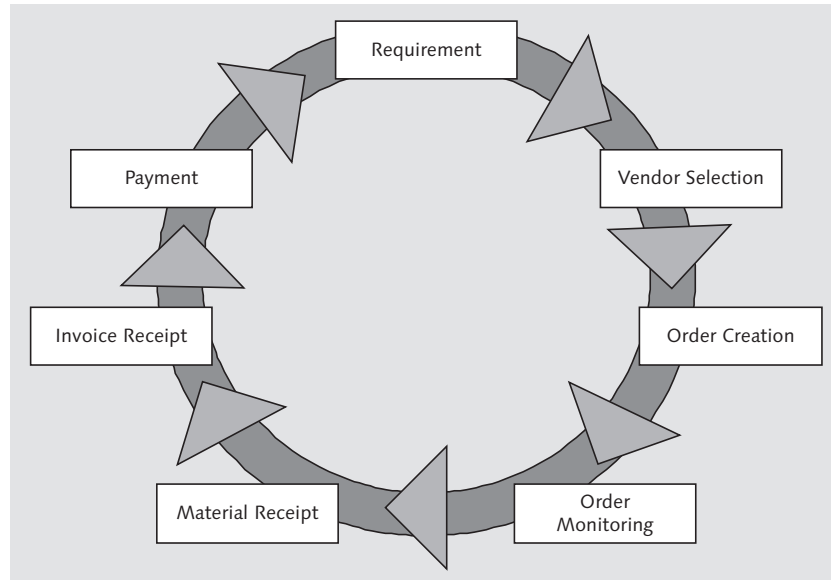

Figure 4.1 The Continuous Process of Purchasing
Today, these materials are being bought all around the world from companies in different countries. Buyers need tools to make sure they are buying the right material at the right price and that will show up in the warehouse dock at the right time. In this chapter, we'll describe how the SAP ERP system, and specifically the Materials Management (MM) component, supports the whole purchasing cycle as shown in Figure 4.1. We'll explain each of the tools the system has and take a practical approach to show you how to use each of them.